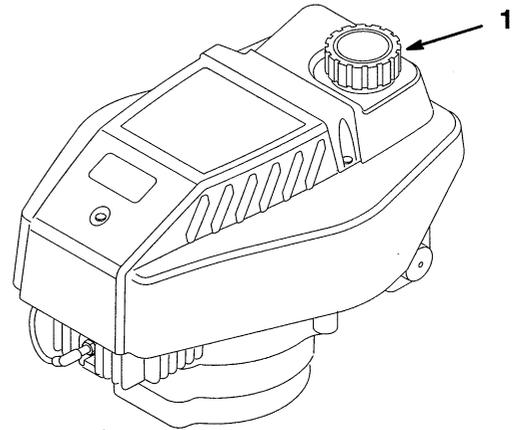

Figure 40
6. Fill fuel tank (Fig. 40) with fresh, clean gasoline mix.